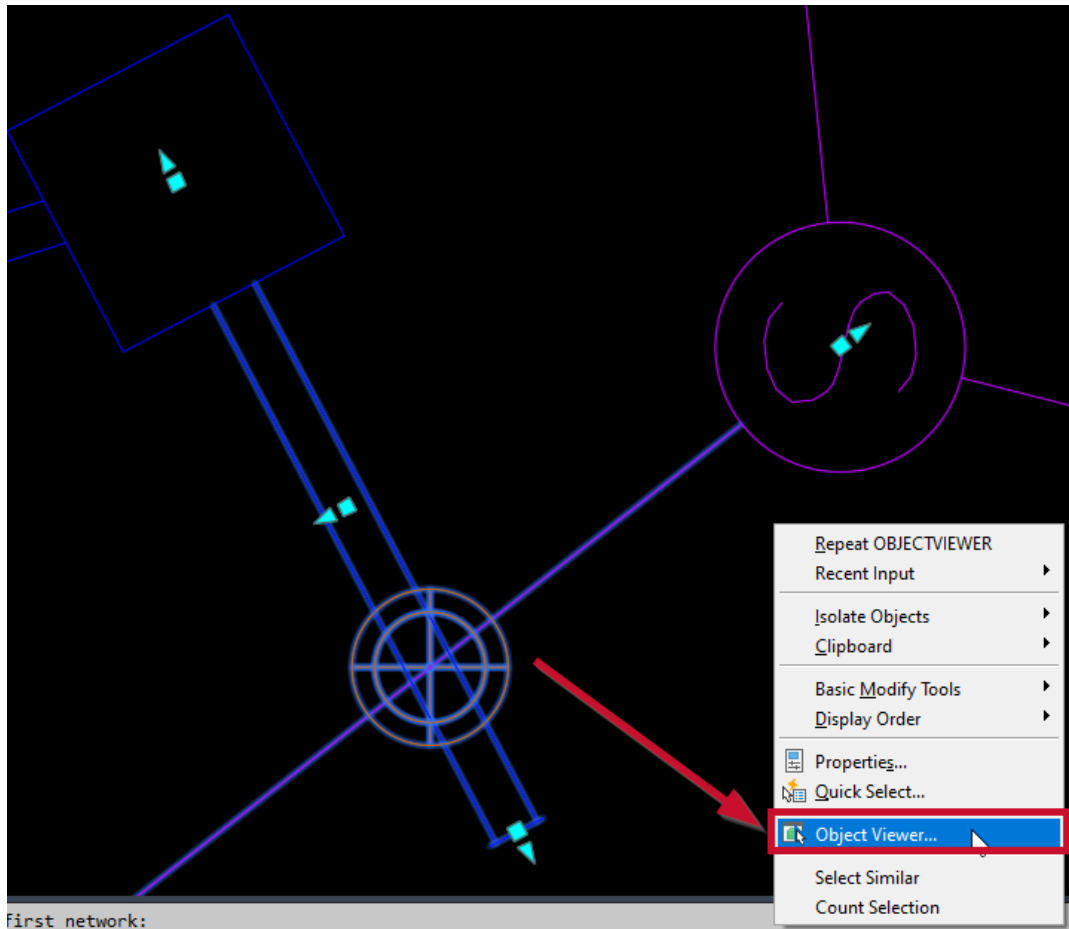

Figure 3.29 – Object Viewer of Selection Set
9. For each of these interferences that have been located, it would be good to check these conflicts in a 3D view just to see what's going on and understand how we need to update our models. Let's navigate to one of the locations where interference has been located; select the Interference node along with the pipes and/or structures that are in conflict, right-click with our mouse in model space, and select **Object Viewer...** (as shown in *Figure 3.29*).